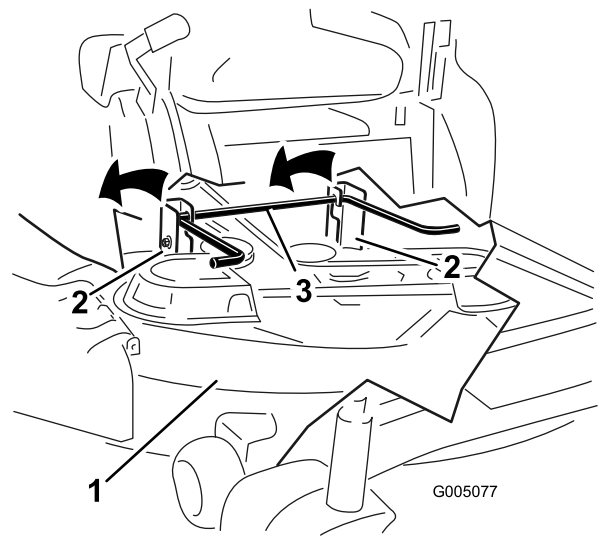

Figure 56
6. Lift the mower deck and hanger brackets clear of the rear lift rod and lower the mower carefully to the ground (Figure 56).
5. Lift the rear of the mower deck and guide the hanger brackets over the rear lift rod (Figure 56).